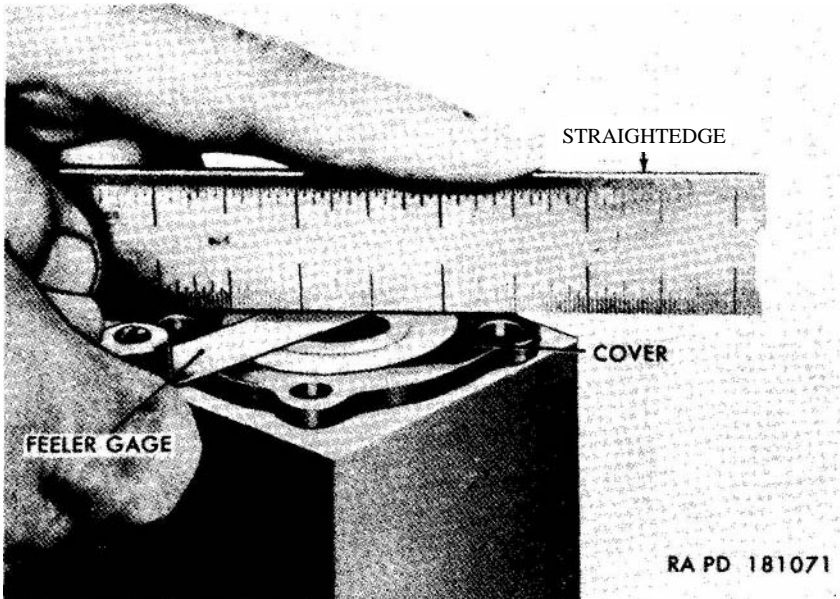

Figure 60. Checking oil pump body cover for distortion.
- (1) Reject any parts that are cracked, broken, or obviously worn.
- (2) Inspect the inner rotor with shaft assembly for damage to the slot in the end of the shaft, replacing the rotor with shaft assembly if the slot is burred or distorted in any way.
- (3) Inspect the inner surface of the oil pump body cover for scoring or rough spots. If such faults are present but only to a minor degree, remove them with a hand hone or crocus cloth. If the cover is seriously scored, replace the cover.
- (4) Check the cover for distortion using a straightedge and gage feeler (fig. 60). The cover must be flat and true to 0.001-inch. If a feeler gage thicker than 0.001-inch can be inserted between the straightedge and the cover, the cover must be replaced.